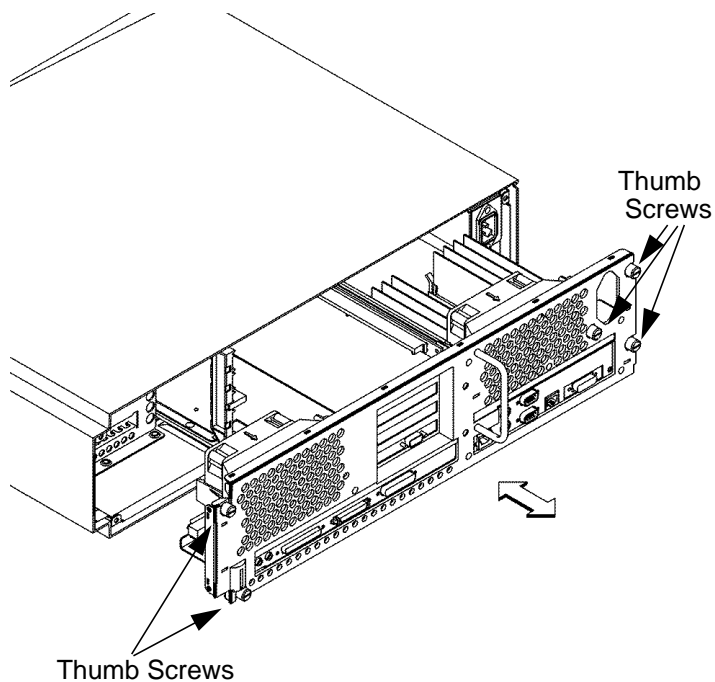

Figure 39
- 1 Align the main tray assembly with the chassis and slide it into place, as shown in Figure 39.
- 4 Start all five thumb screws loosely, then tighten them firmly. See Figure 39.